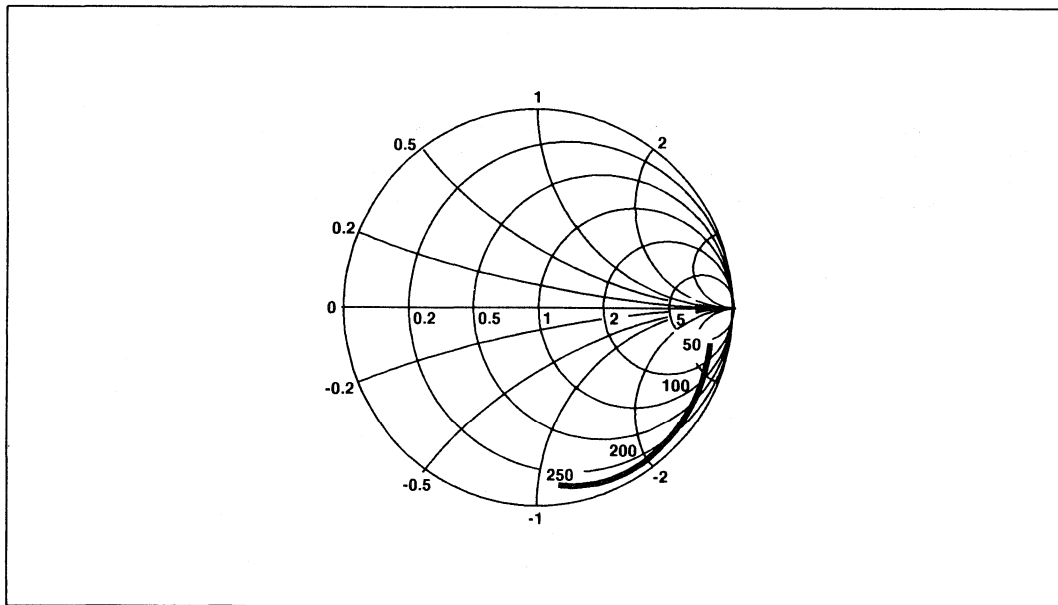

Fig.6 Typical input impedance. Test conditions: supply voltage 5.0V, ambient temperature 25°C, frequencies in MHz, impedances normalised to 50 ohms.
5. Input impedance is a function of frequency. See Fig.6.